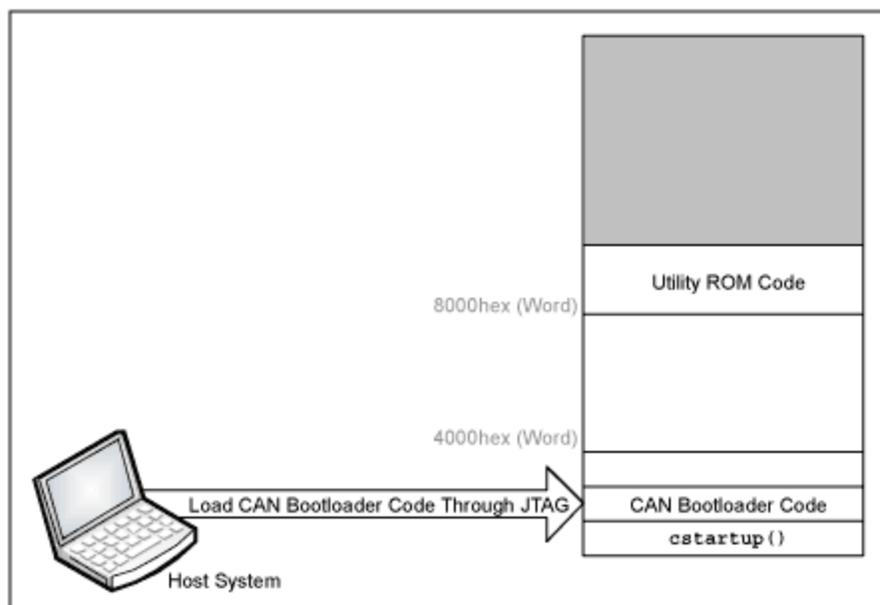

Figure 1. The CAN bootloader is loaded through the JTAG port.
**Step 1:** Load the CAN bootloader into the lower part of the program memory (**Figure 1**).